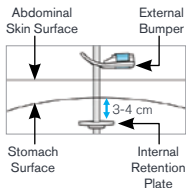

FIGURE 5
3. Carefully push the tube 3 to 4 cm into the stomach and gently pull back until you feel resistance of the internal retention plate. Do not twist the tube. (Figure 5)